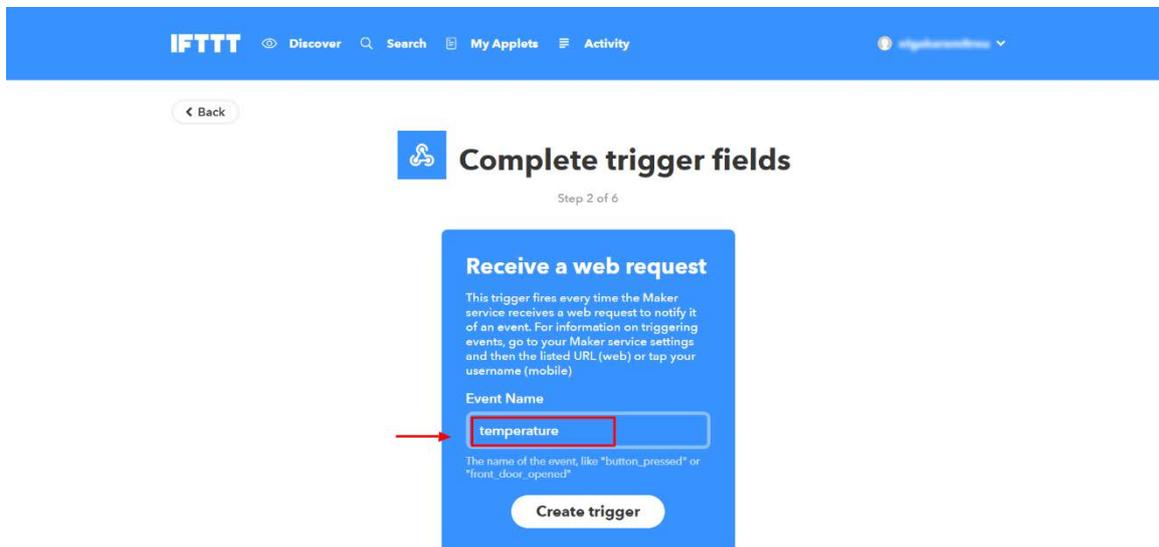

Figure 78: Make an IFTTT Applet, Complete Step 2
- 6. On the 'Complete trigger fields' screen, type in one of the supported event names and click the 'Create trigger' button (Figure 78). Dialog IoT Sensors app sends events at four different routes as it supports the following event names: temperature, humidity, pressure, and button.